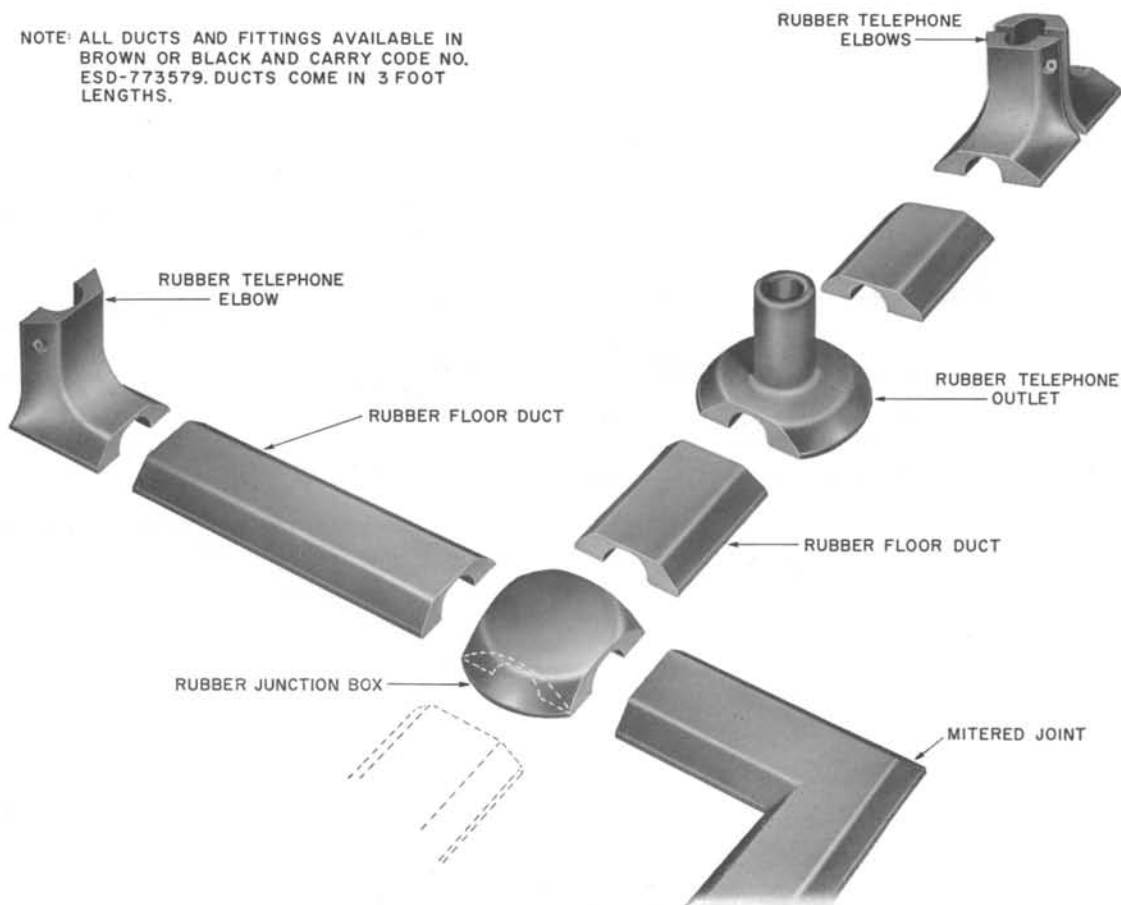

FIG. 6—RUBBER DUCT
- Rubber overfloor duct and Flexiduct (shown in Fig. 6) are made of a rubber-tile stock.